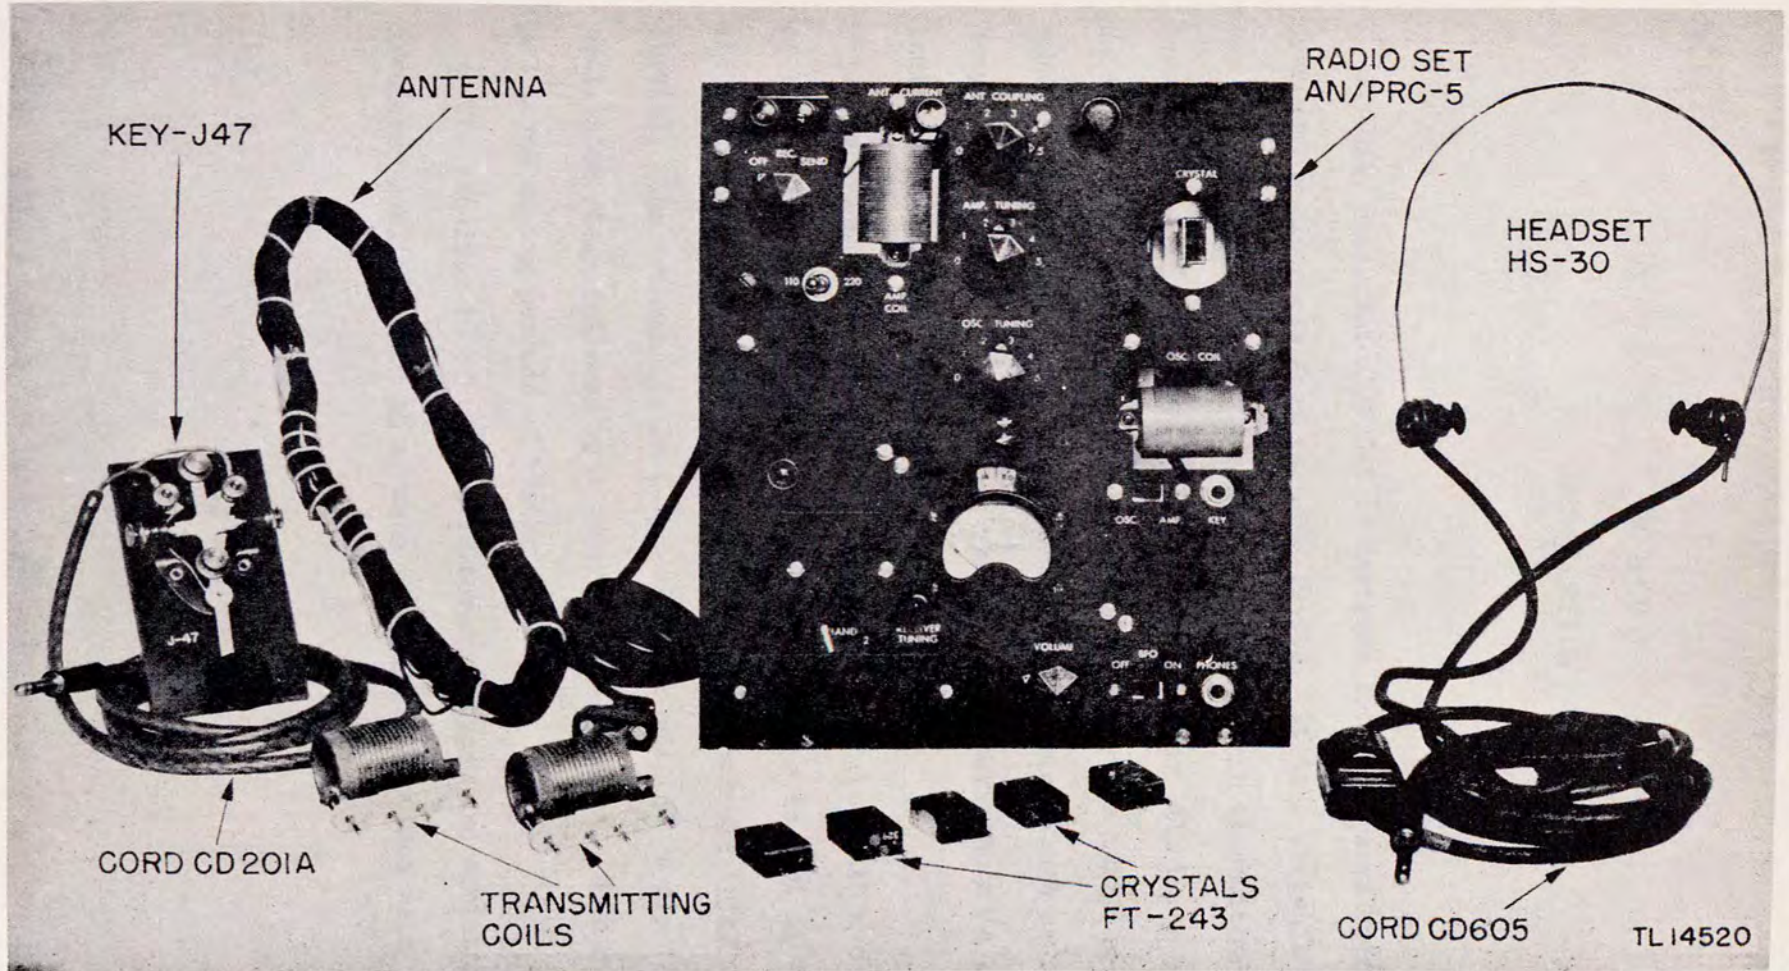

Figure 1. Radio Set AN/PRC-5, front panel and operating components.
- (1) 4,500 to 8,000 kilocycles.
- (2) 8,000 to 16,000 kilocycles.
5. SOURCE OF POWER (fig. 1). The equipment is designed for operation from a 110- or 220-volt, 50- to 60-cycle, single-phase source. The equipment is set for operation from a source of either voltage by manipulation of the switch marked 110-220, located near the FUSE receptacle in the upper left-hand corner of the transceiver unit.
7. TRANSCEIVER (fig. 1). The transmitter and the power supply form the upper half of the transceiver unit, and the receiver forms the lower half. All of the controls for the transceiver unit are mounted on a single panel covering the face of the unit (fig. 1).
9. HEADSET (fig. 1). Headset HS-30, furnished with the equipment, plugs into the PHONES jack on the transceiver unit by means of Plug PL-55 attached to the end of headset Cord CD-605. The 256-ohm primary winding of Transformer C-410 is connected to the headset, and the 8,000-ohm secondary winding is connected to the receiver output by means of the complete headset and cord assembly.
10. KEY (fig. 1). Key J-47, furnished with the equipment, plugs into the KEY jack on the transceiver unit by means of Plug PL-55 attached to the end of Cord CD-201-A.
14. CRYSTALS (fig. 1). A set of six crystals, mounted in FT-243 holders, are furnished with the equipment. These crystals permit fundamental frequency operation on the following frequencies: 4635; 5263; 5925; 6525; 7150; and 7825 kilocycles. The crystals also permit operation at the second harmonic frequencies of the crystals as follows: 9270; 10,526; 11,850; 13,050; 14,300; and 15,650 kilocycles.
15. TRANSMITTER PLUG-IN COILS (fig. 1). A set of four transmitter coil units furnished with the equipment. These coils are wound on clear phenolic forms attached to a ceramic-plug strip having four pin-type plugs. The coils plug into ceramic jack strips installed in the trans-